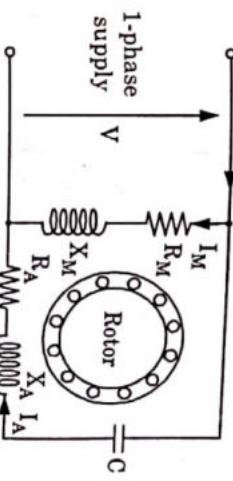

Fig. 4.31.3. Permanent-split capacitor motor.
- c. A permanent-split capacitor (PSC) motor is shown in Fig. 4.31.3.